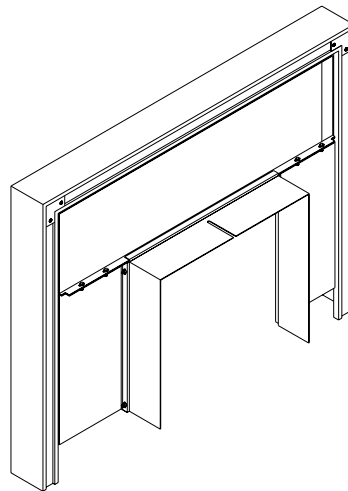

Figure 5
- D. Line up the holes by pushing the sides out and install (smooth heads inside) all the bolts loosely. Line up the edge of the faceplate top and side, tighten the two bolts joining them, and then tighten the side bolts. Tighten the bolts on the other side in the same manner (see Figure 5).